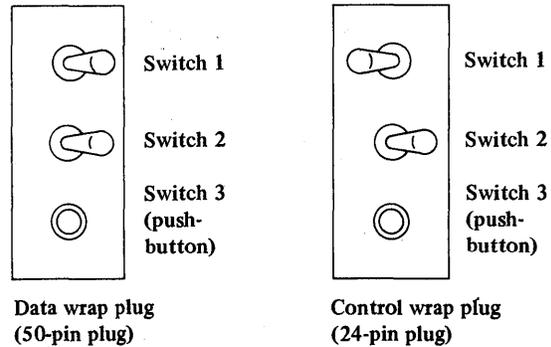

Figure 4-8. Manual mode wrap plugs for test 3
**5** Set the toggle switches on the data wrap plug and the control wrap plug as shown in Figure 4-8.
Are all switches set as shown in Figure 4-8?